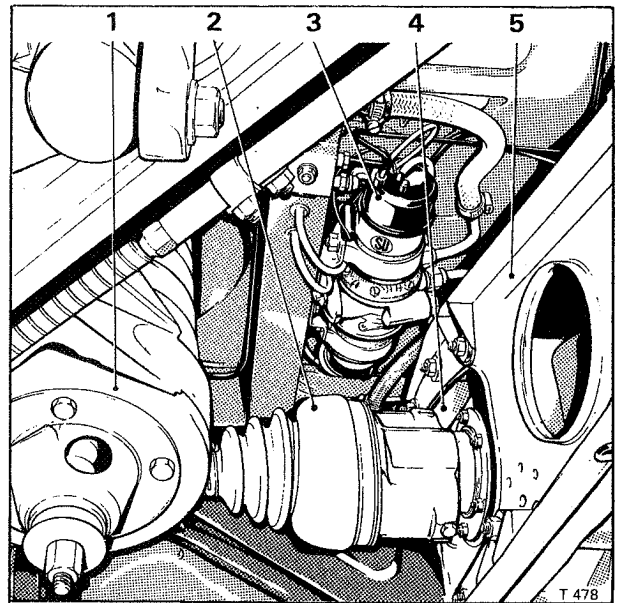

Fig. K13 S.U. fuel pumps in position
S.U. fuel pumps assembly - To remove (see Fig. K13)